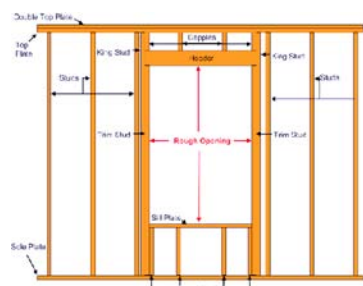

Fig. 4 Illustration of typical wood framework with window.
- All framework (studs and top & sole plates) and extra framework around window & door frames (sill plate, king & trim studs, and headers; see Figs 4 & 5) and other repeating thermal bridges in the facade, should generally be aggregated into U-values. Thus, U-values should reflect the true amount of framework (i.e. length of framework per m2 opaque wall), which can vary greatly depending on window geometry and area.